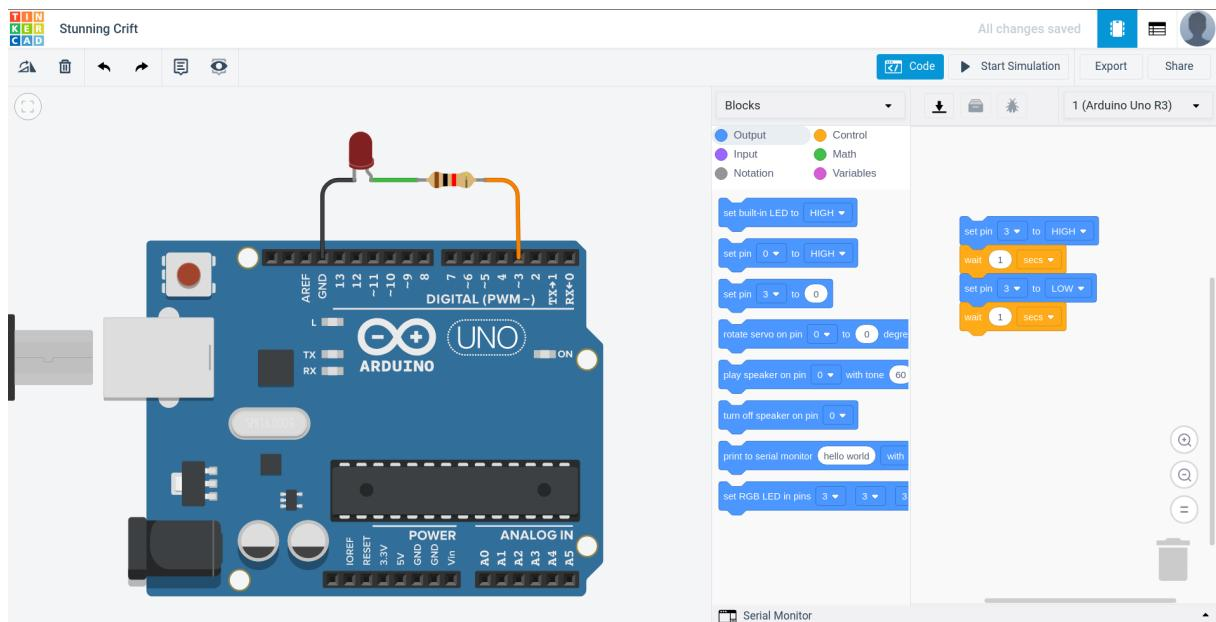

Figure 3.1: Blink example in Thinkercad.
2. Try to add your own LED on the different output pin and change the program like is shown on the fig. 3.1 to make it work (LED must blinking).